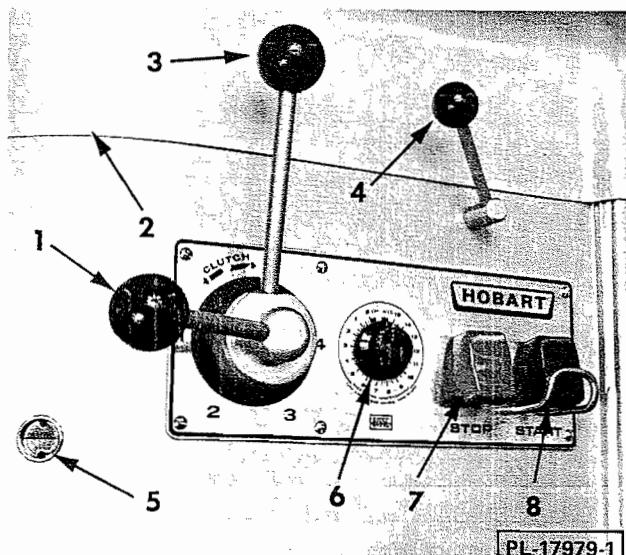
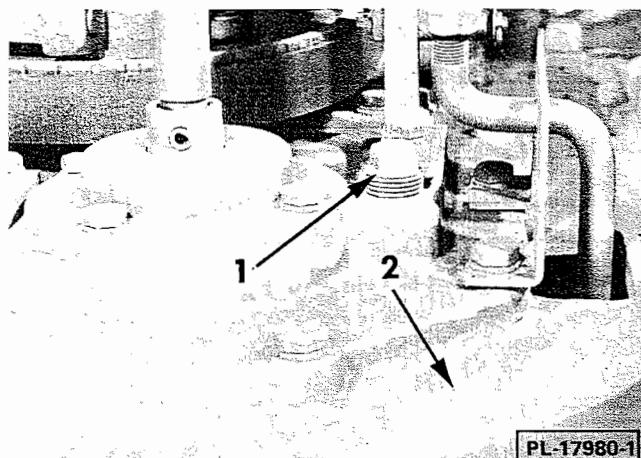
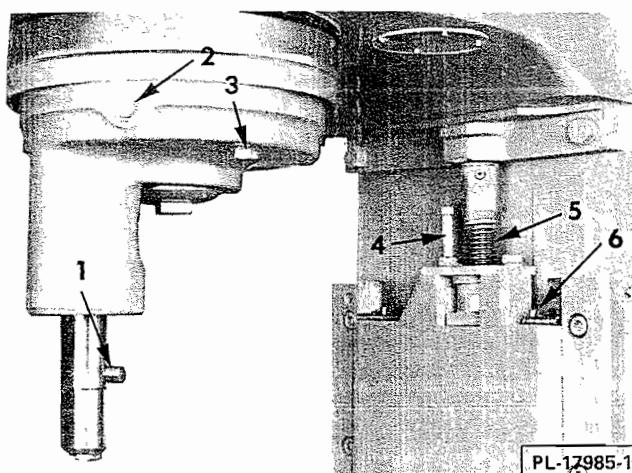
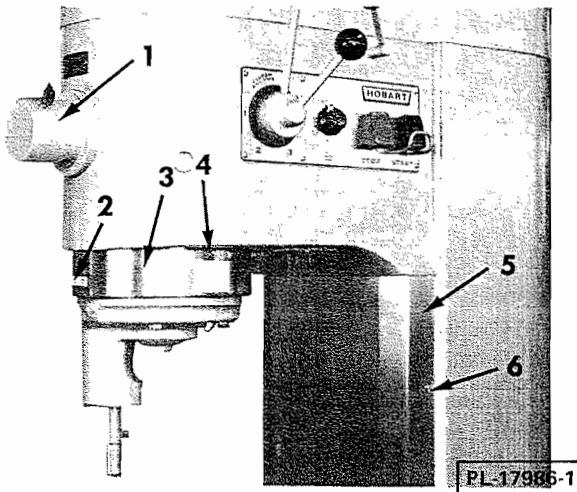

Fig. 1
Fig. 2
Fig. 3
Fig. 5
Once located, the machine must be leveled. Remove the top cover screws and the top cover (2, Fig. 1). Place a level on the machined surface (2, Fig. 2) of the transmission case. Slide shims under the legs of the base as necessary to level the mixer.
To fill transmission, remove the top cover (2, Fig. 1) and transmission fill plug (1, Fig. 2). Pour the contents of bottle labeled **Transmission Oil**, shipped with machine, into the case. The oil level should be between the center and top of the oil level gauge (5, Fig. 1). If the oil falls below this when the motor is not running, more oil is required. When adding oil, add small amounts at a time and check during operation.
Remove the planetary fill plug (2, Fig. 3). Check to assure the drain plug (3, Fig. 3) is tight. Slip one end of the tubing (supplied) over the nozzle end of the container labeled **Planetary Oil**. Place the other end of the plastic tube in the planetary and pour entire contents into the machine. Replace the fill plug.
Three-phase machines must be connected so the planetary turns in the direction of the arrow (2, Fig. 5). To check the direction of rotation, turn the power disconnect switch ON. Place the speed selector (1, Fig. 1) in #1. Place timer (6, Fig. 1) on HOLD. Energize machine momentarily by pushing START then STOP and verify the direction of rotation.
Operational controls include a timer (6, Fig. 1), a START switch (8, Fig. 1), a STOP switch (7, Fig. 1), a clutch handle (3, Fig. 1), a speed selector handle (1, Fig. 1), and a power bowl lift handle (4, Fig. 1).
The power bowl lift is used to raise or lower the bowl with the motor running. To use the power bowl lift, move the clutch handle (3, Fig. 1) to the STOP position. Place the timer knob on HOLD and press the START button. Move the power bowl lift handle (4, Fig. 1) from the center neutral position clockwise to raise the bowl or counterclockwise to lower it. An overload slip clutch will ratchet at the top and bottom stop positions to signal end of travel and to protect the operating mechanism.
With the bowl in place and the lift at its bottom stop, push the agitator shank up on the shaft and turn clockwise until the drive pin (1, Fig. 3) of the shaft latches in the bayonet slot of the agitator shank. Agitators which may be used with this mixer are shown on the last page of this manual.
For non-timed operation, place the clutch handle in the STOP position and set the speed selector handle (1, Fig. 1) at the desired speed. Set the timer (6, Fig. 1) on HOLD and depress the START switch (8, Fig. 1). Move the clutch handle from STOP to RUN to start mixing. At completion of mixing, move the clutch handle to STOP and depress the STOP switch (7, Fig. 1).
For timed operation, place the clutch handle in the STOP position and set the speed selector handle (1, Fig. 1) at the desired speed. Set the timer (6, Fig. 1) at the desired time (if less than 3 minutes turn past 3 and back to the desired time), and depress the START switch (8, Fig. 1). Move the clutch handle from STOP to RUN to start mixing.
If it is necessary to stop the mixer before timer has expired, move the clutch handle to STOP and depress the STOP switch (7, Fig. 1). The mixer may be restarted by depressing START switch if timer has not expired. If timer has expired, it must be reset before depressing START switch. The clutch handle should then be moved to RUN to start mixing.
**TO CHANGE SPEEDS, DISENGAGE THE CLUTCH** by moving the clutch handle (3, Fig. 1) to STOP position. The brake is automatically actuated. When the agitator shaft has stopped, move the speed selector handle to the desired speed. Make certain the speed selector handle lines up with number on the shift selector plate. NEVER POSITION THE HANDLE BETWEEN NUMBERS. PLACE THE CLUTCH HANDLE IN RUN POSITION TO CONTINUE OPERATION.
Install the attachment into the attachment hub (1, Fig. 5) of the mixer. Make certain the square shank
The bowl support apron (5, Fig. 5) may be easily removed by loosening the thumb screws (6, Fig. 5). The inner apron may be removed by removing its screws.
The drip cup (3, Fig. 5) should be removed periodically and wiped clean. It is removed by loosening the two thumb screws (4, Fig. 5) and pulling down.
The oil in the planetary should be checked periodically. Remove the drip cup (3, Fig. 5) by loosening the two thumb screws and pulling down. Remove the fill plug (2, Fig. 3). Oil should be even with the bottom of the fill plug hole. If oil does not run out, slowly add Gearep #85 until it begins to overflow. Replace the fill plug and drip cup.
An oil drain is located at the bottom of the planetary. Should draining be necessary, remove the drip cup and place a suitable catch pan under the planetary. Remove the drain plug (3, Fig. 3). When oil is completely drained, replace the drain plug. Remove the fill plug and replenish with 6 ounces of Gearep #85.
For correct lubrication, the oil level should be between the center and top of the oil gauge (5, Fig. 1) when the machine is not running. If the oil falls below this, remove the top cover and the fill plug (1, Fig. 2). Pour Gearep #140 into the transmission until oil returns to the gauge line. Replace the fill plug and top cover. Use caution not to overfill the transmission as leakage may result.
The slideways and the lift screw should be lubricated about twice a year depending upon amount of use. To reach these areas, loosen the thumb screws (6, Fig. 5) and remove the bowl support apron (5, Fig. 5). Remove the inner apron by removing its screws. Oilers (6, Fig. 3) are provided for lubricating bowl slideways. Lower the bowl support to expose oilers and use Havoline #10 oil. The lift screw (5, Fig. 3) is lubricated by applying a thin coat of Lubriplate 630AA (supplied). Replace the aprons and tighten the screws.
Remove the bowl support apron (5, Fig. 5) and inner apron. Install the bowl and lock in place. Install the "B" beater. With the bowl in its raised position, **DISCONNECT ELECTRICAL POWER SUPPLY.**
Loosen the lock nut, and turn the stop screw (4, Fig. 3) clockwise to decrease the clearance or counterclockwise to increase the clearance. Tighten the lock nut while holding the stop screw.